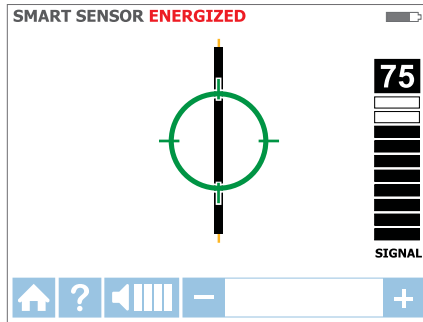

Figure 3.1f: Receiver locked on wire
5. A green target symbol indicates that the Receiver is directly over the wire. If the Receiver does not lock on the wire, decrease sensitivity using the “-” on the keypad or set the Transmitter to transmit at LOW level for precision tracing (Figure 3.1f).